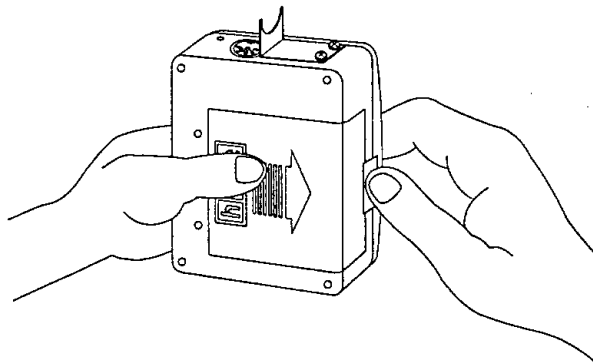

Figure 7. Opening the battery compartment
- To remove the battery from a Communicator, slide the battery latch open and push the battery in the direction of the large arrow on the battery as shown in Figure 7.